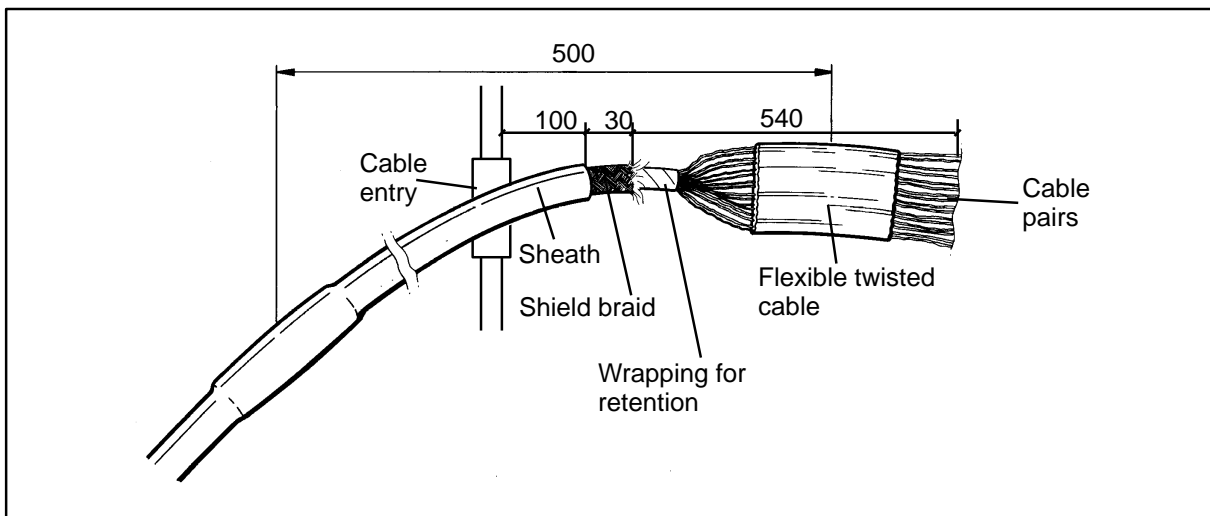

Figure 39 Connecting the cable type RPM 513 338
6. Remove cable mantling according to figure 39.